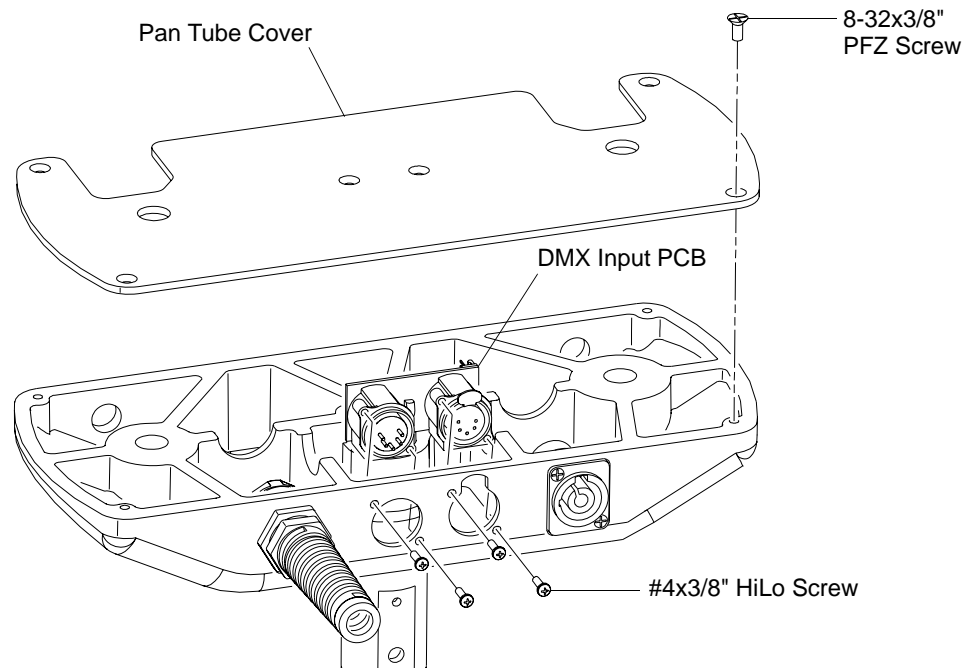

Figure 2-28: DMX Input PCB Replacement
- Step 2. At pan tube cover, remove four 8-32x3/8" PFZ screws and remove cover (**Figure 2-28**).